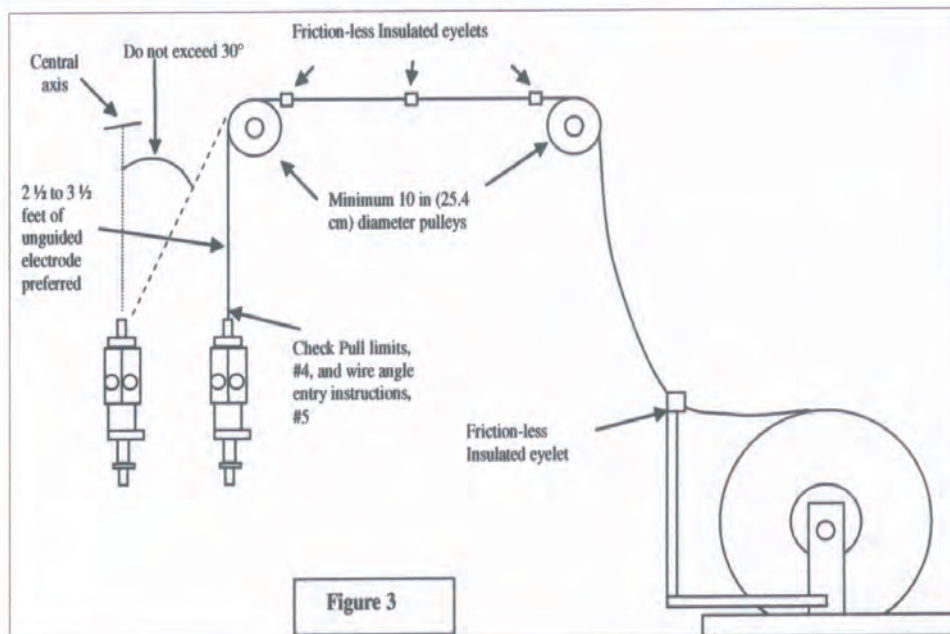

Figure 3
B. To prevent installation complications observe the following precautions: (See Figure 3)